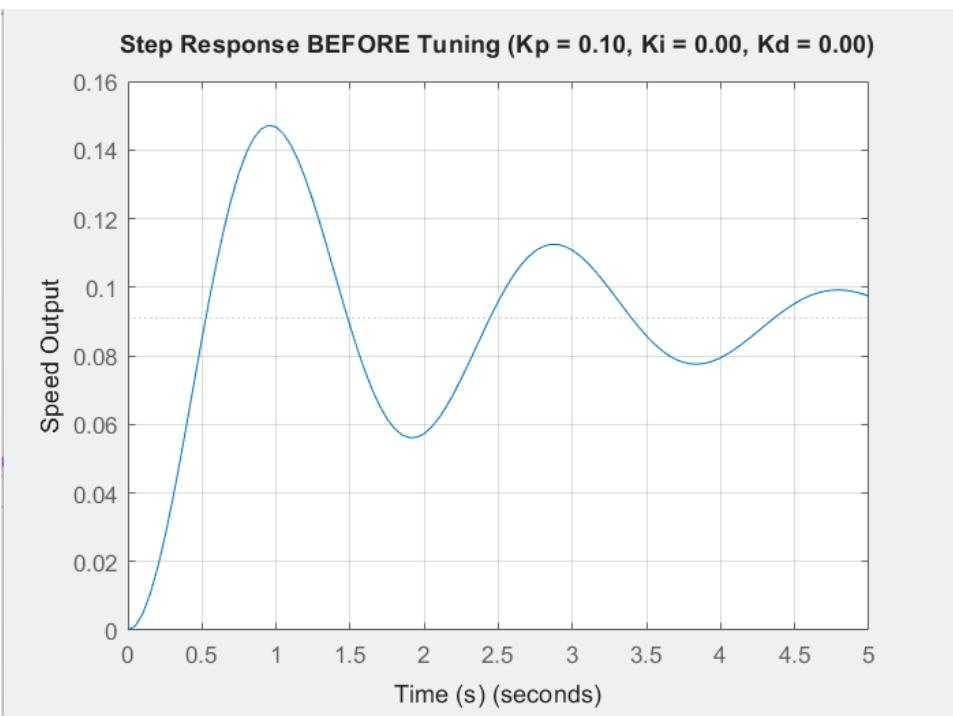
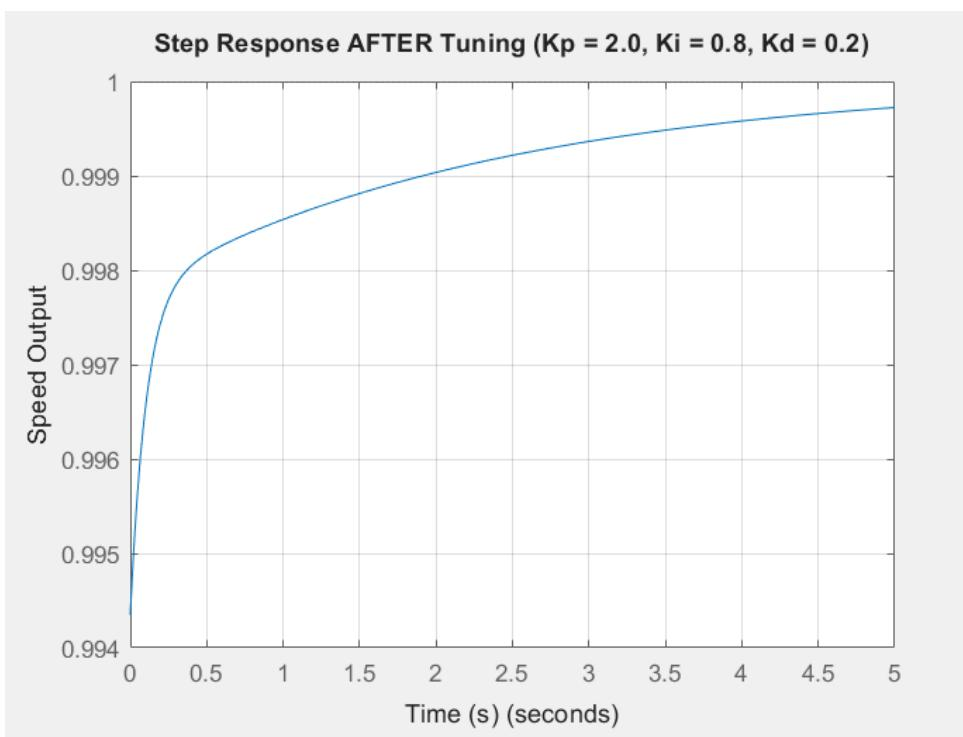

Figure 1: Step Response before tuning
Figure 2: Step Response after tuning
The PID controller was tuned using the Ziegler-Nichols method, starting with $K_i = 0$ and $K_d = 0$ and increasing the proportional gain until sustained oscillations occurred. The proportional term (P) speeds up response by reacting to current errors, the integral term (I) corrects steady-state error by summing past errors, and the derivative term (D) reduces overshoot by responding to the error's rate of change. This approach provides initial PID settings for stable, responsive control. Figure 1 and Figure 2 show approximate step response before and after tuning for DC motor.